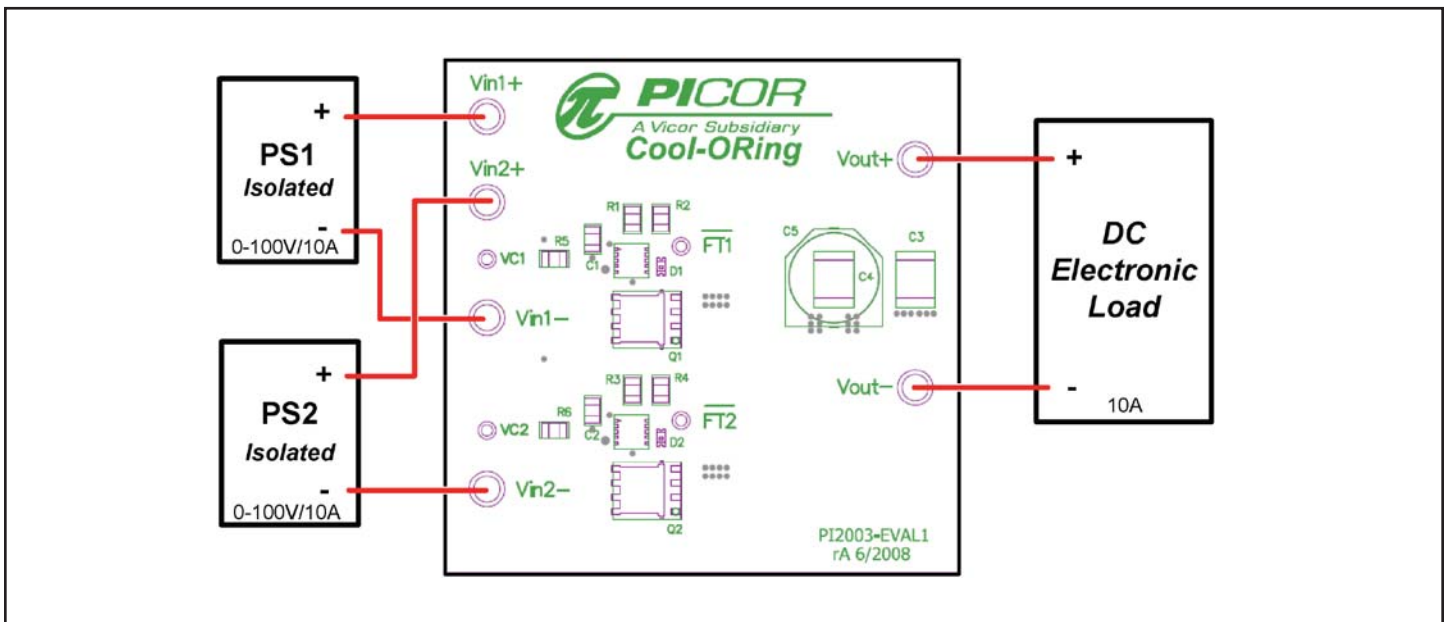

Figure 3 – Layout configuration for a typical redundant power application, using isolated power supplies.
Baseline Test Procedure (Refer to Figure 3)
3.0 Hook Up of the Evaluation Board, refer to Figures 3 and 4.
3.1 If isolated power supplies are used, Figure 3.